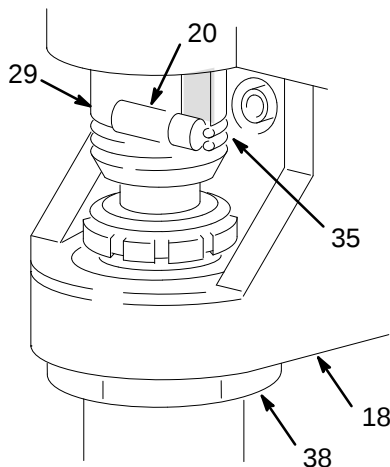
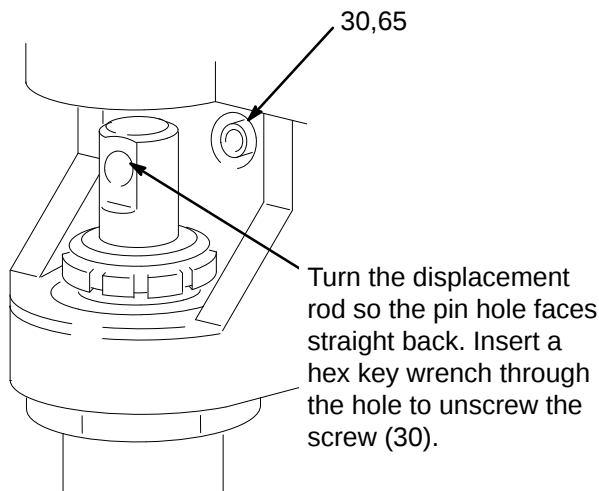
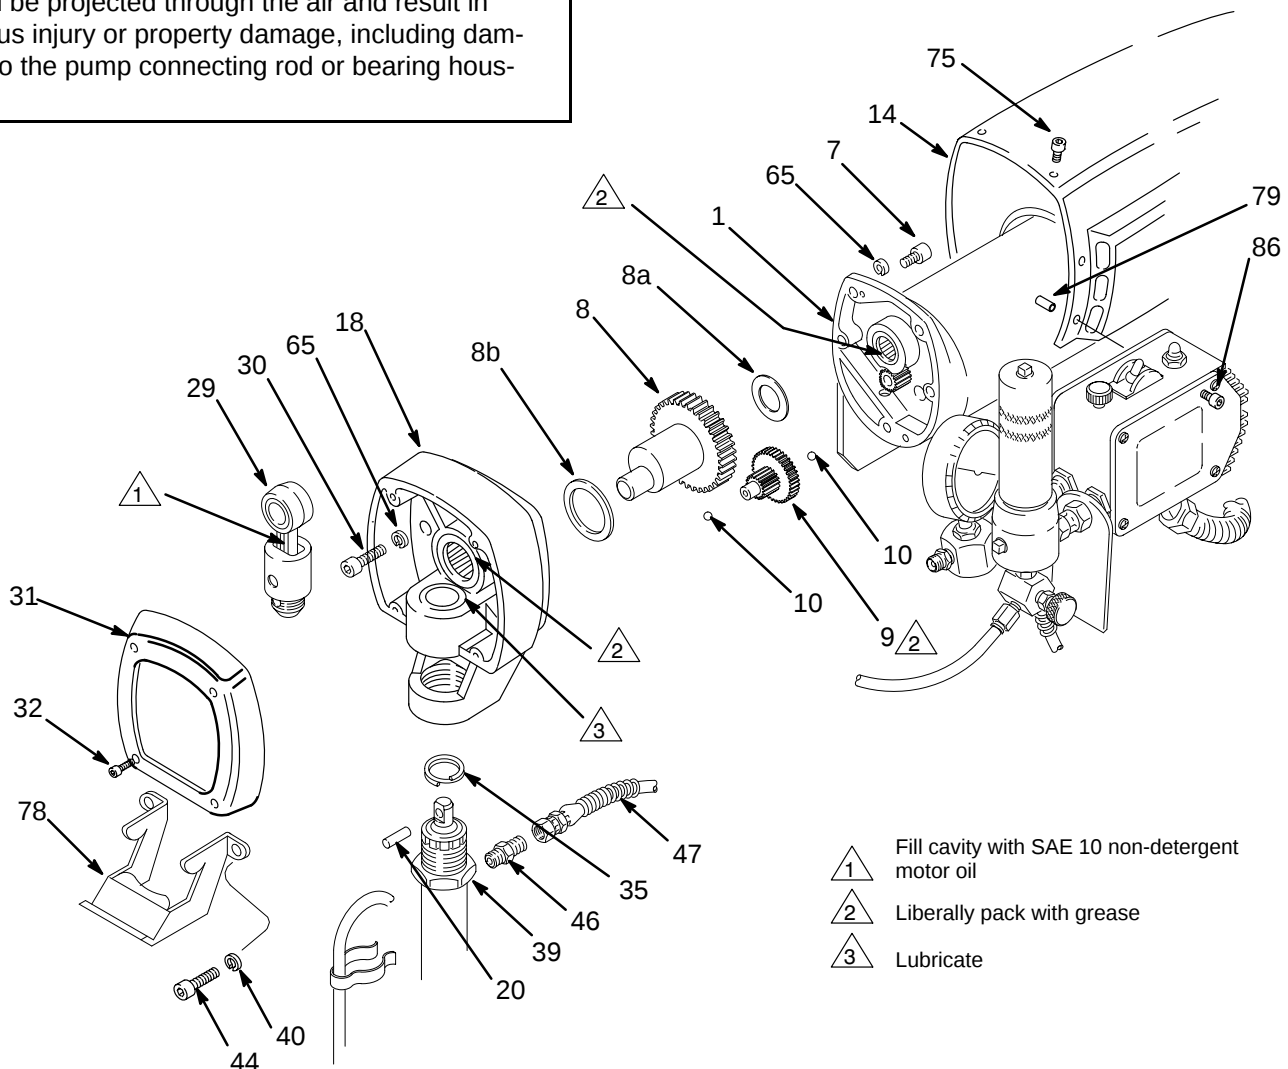

Fig 25
Fig 26
Fig 28
NOTE: Refer to Fig 26 unless otherwise noted.
1. Remove the front cover (31), the motor shield (58) and the short hose (47).
3. Use a screwdriver to push up the retaining spring (35). Push the pin (20) out the rear. See Fig 25.
4. Loosen the jam nut (38) with an adjustable wrench. Unscrew and remove the pump.
5. See Fig 26 to remove one screw (30) which is hidden. Remove the other two screws (30) from the recess of the drive housing. See Fig 28.
6. Remove the two screws (7) holding the motor (1) to the drive housing (18).
7. Lightly tap the lower rear of the drive housing (18) with a plastic mallet to loosen it from the front of the motor. Then pull the drive housing straight off.
5. Loosen the nut of the connector (51) at the motor and pull the conduit (22) away from the motor, then pull the leads through the conduit, one at a time.
6. Unscrew the connector (51) from the motor.
8. Remove the front cover (31).
10. Disconnect the short hose (47) from the pump.
11. Use a screwdriver to push up the retaining spring (35). Push the pin (20) out the rear. See Fig 25, page 31.
12. Loosen the jam nut (38) with an adjustable wrench. Unscrew the displacement pump.
13. Turn the displacement rod so the pin hole faces straight back. Insert a hex key wrench through the hole to unscrew the screw (30). See Fig 26, page 31. Remove the other two screws from the recess of the drive housing.
14. Remove the motor shield (14).
15. Remove the two screws (7) from the top of the motor.
16. Use a plastic mallet to gently tap the displacement pump (39) from the rear to loosen the drive housing from the front of the motor. Then pull the drive housing away from the of the motor.